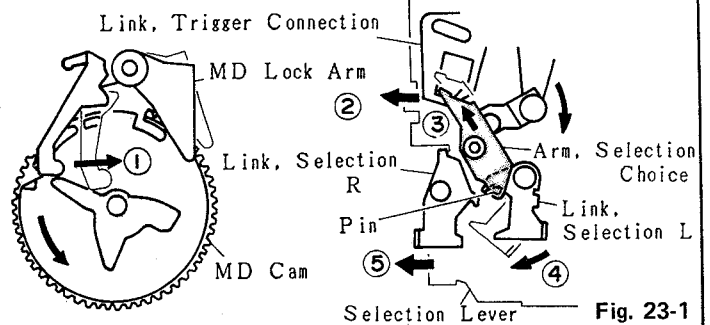

Fig. 23-1
- 1) The MD Lock Arm is moved in the direction of arrow ① as soon as the MD-PL (plunger) is exerted when the MD Cam is situated at the point shown in Fig. 23-1. This movement pushes the Link, Trigger Connection in the direction of arrow ②, activating the interlinked Selection Choice in the direction of arrow ③. Then, the pin of the Arm, Selection Choice activates the Link, Selection L in the direction of arrow ④ to change a state of the Selection Lever Ass'y in the direction of arrow ⑤.